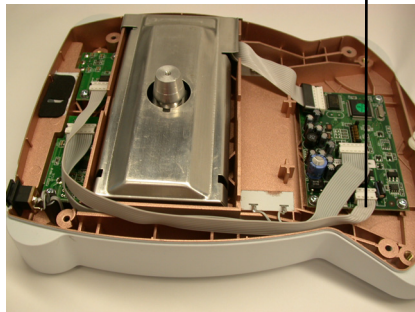

Figure 2D.
8. Connect the PCB cable to a) the 2nd RS232 PCB, and b) to connector CN6 on the main PC board on the front of the balance (see Figure 2D). Route the PCB cable towards the left side of the bottom housing.